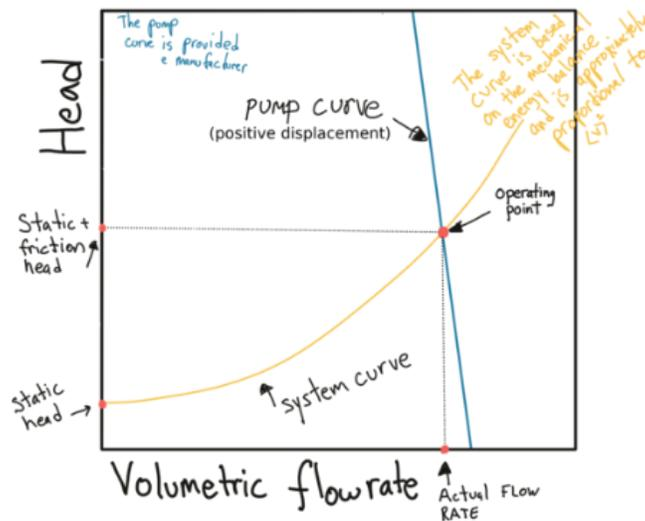

Figure 12: Pump and system curves with operating point based on field testing.
- For pumps, check the operating point using flow and pressure readings, and plot with the manufacturer’s pump curve, as shown in Figure 12.